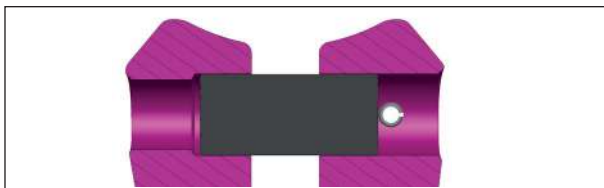

Fig. 2: G bolt assembly by means of clamping pin and stepped hole (left). A G bolt of the next smaller size falls out.
- The G bolt must be mounted in the component by means of the clamping pin and the stepped hole in such a way that it cannot get undone (fig. 2).